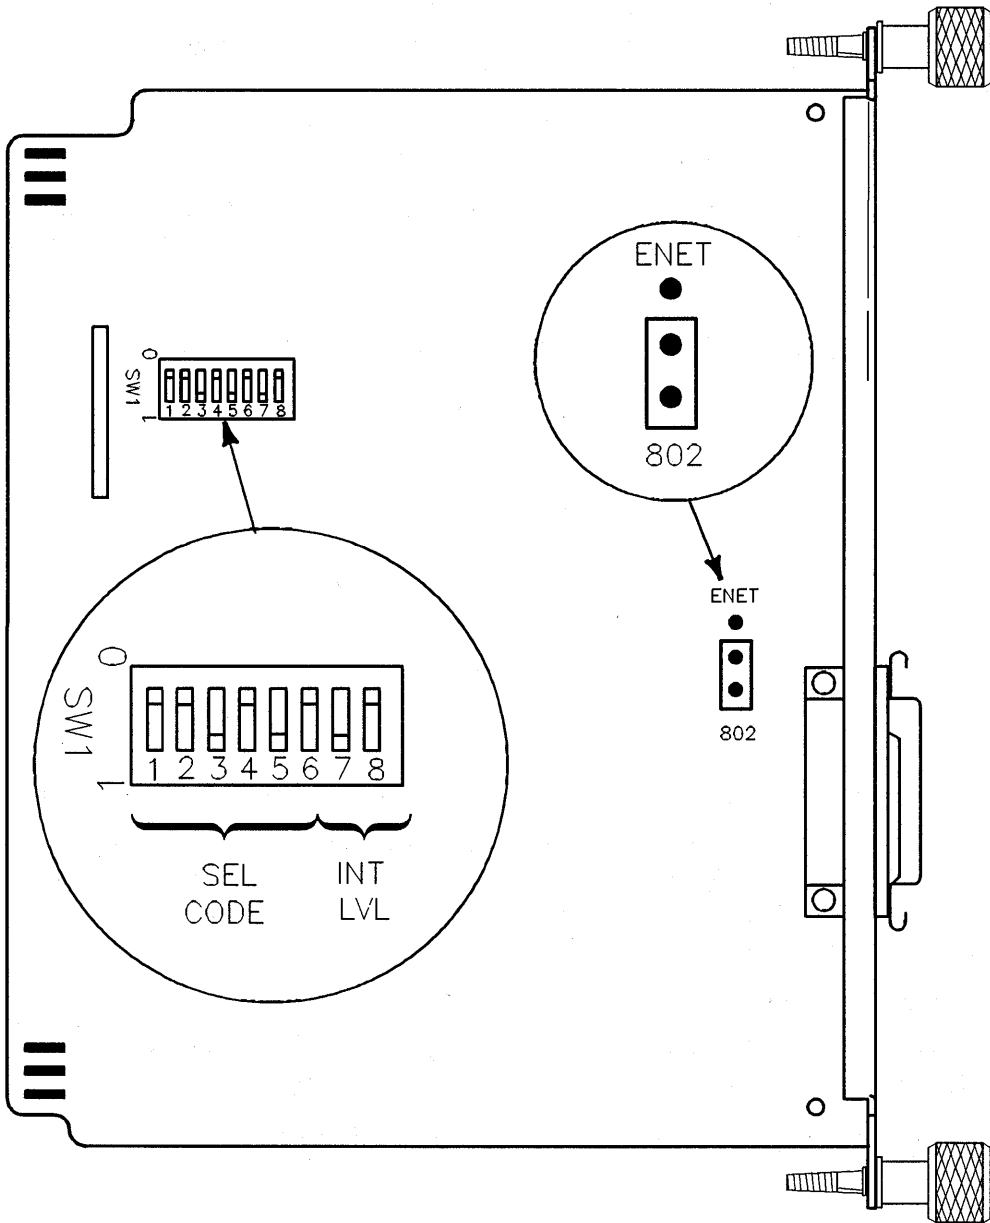

Figure 10-9. HP 98643A Local Area Network Interface Switch Locations
Refer to Figure 10-9 for switch locations.
2. Find the group of switches labeled SW1 by referring to Figure 10-9. Switches 3 through 8 in this group determine the select code.
1. Find the group of switches labeled SW1 by referring to Figure 10-9. Switches 6 and 7 in this group determine the interrupt level.
Setting the Interface Type. Refer to Figure 10-9 to find the interface type jumper.